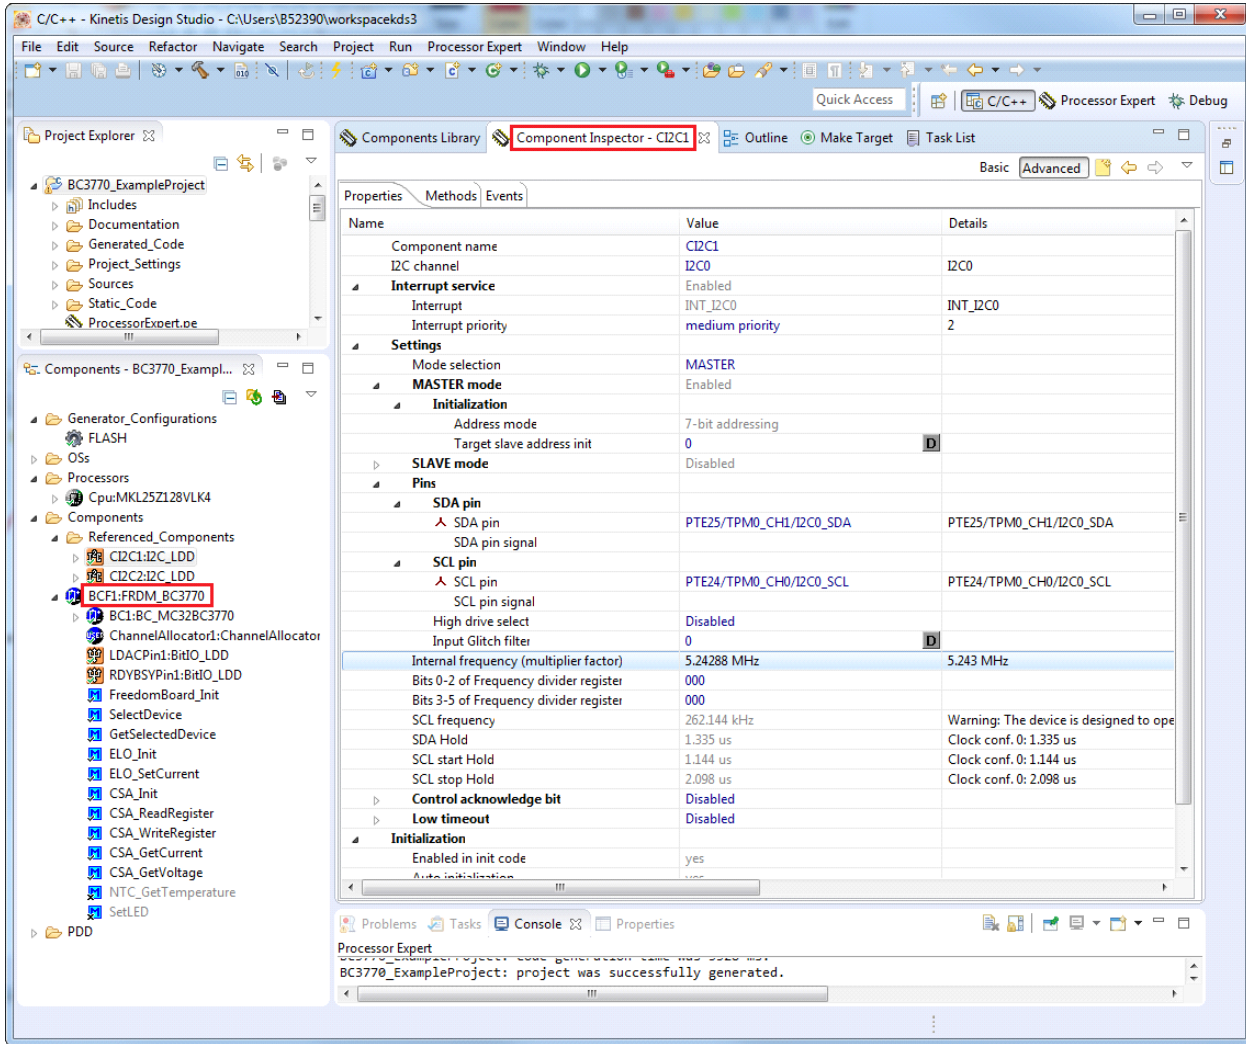

Figure 16. Component Inspector view
2. Click the BC3770 component in the **Components** window to show the configuration in the **Component Inspector** view (see Figure 16).